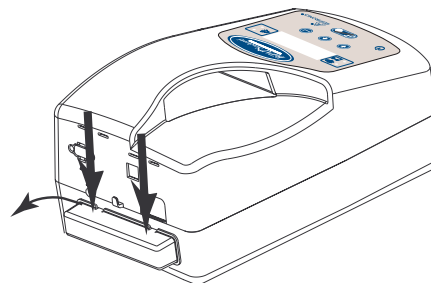

Figure 7-1 Removing the Air Filter Cover
Step 2 As shown in Figure 7-1, remove the filter panel by pressing down on the top of the panel to release the tabs, then swinging the panel out from the Synchrony's body.